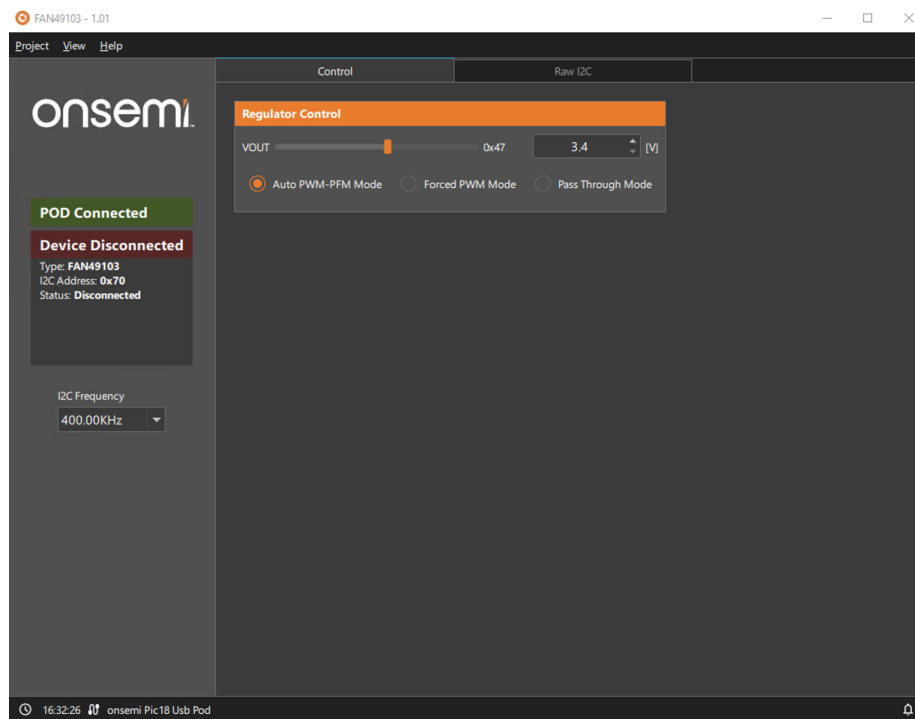

Figure 7. POD Connected
- b. Once the USB Interface POD is connected, it will show POD Connected on the GUI and if device is not connected it will show Device Disconnected. See Figure 7.